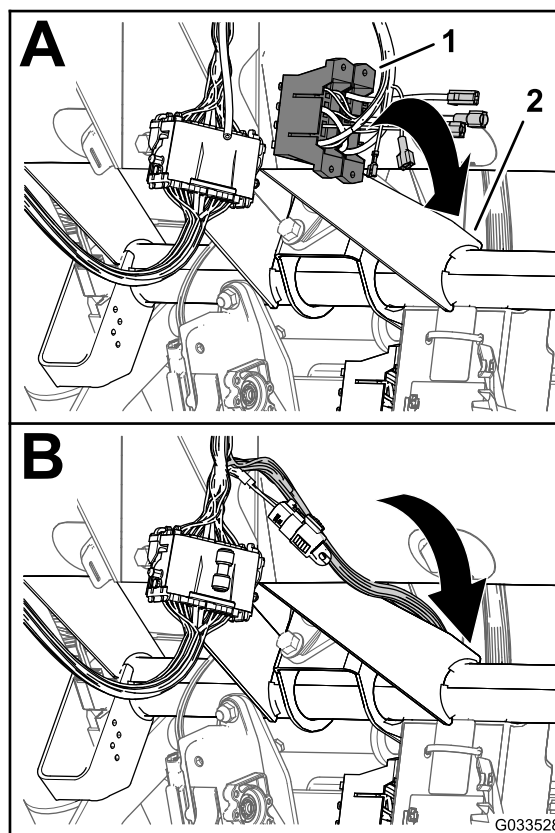

Figure 22
1. At the control console for the sprayer, route the branch of the front wire harness with the fuse blocks between the bottom of the dash panel and the cross tube of the machine chassis and down toward the forward side of the fuse block of the machine (Figure 22).